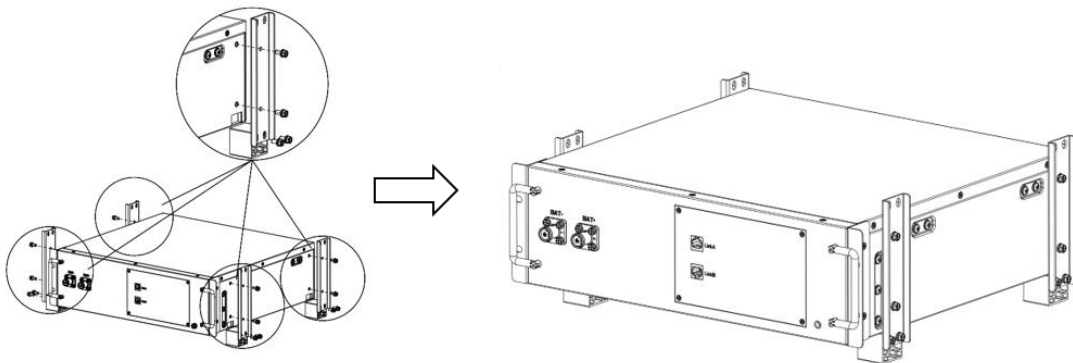

Figure 3.2 Assemble the basic bracket to the battery box
(1) Take the assembled basic bracket above and fix it to the side of the box with 2 M5\*12 screws per set.
(2) One box is assembled with 4 sets of simple brackets, and a total of 8 screws are consumed in the assembly of one box (Figures 3.2,3.3).